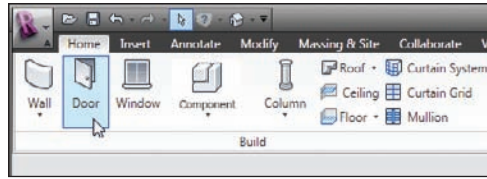

FIGURE 2.65 Adding a door
2. On the Home tab, click the Door button (see Figure 2.65).